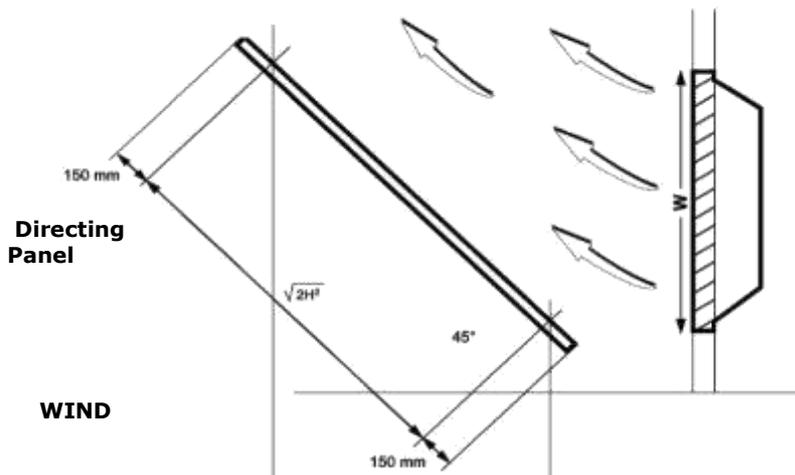

Figure 3.8
2. Directing panels can be used as shown in Figure 3.8.